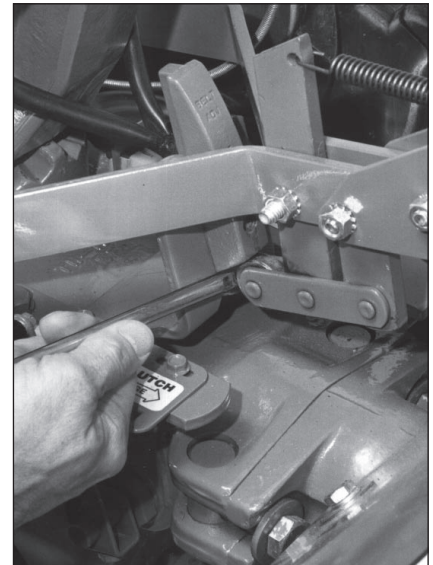

Figure 5-13: Insert slotted end of belt adjustment tool between roller and bracket, with the flat side of the slotted end facing the roller.
- Without moving the clutch roller, try inserting the 1/4"-thick, slotted end of the belt adjustment tool in between the roller and the upright bracket. (The flat edge of the tool must be facing the roller.) Refer to Figure 5-13.